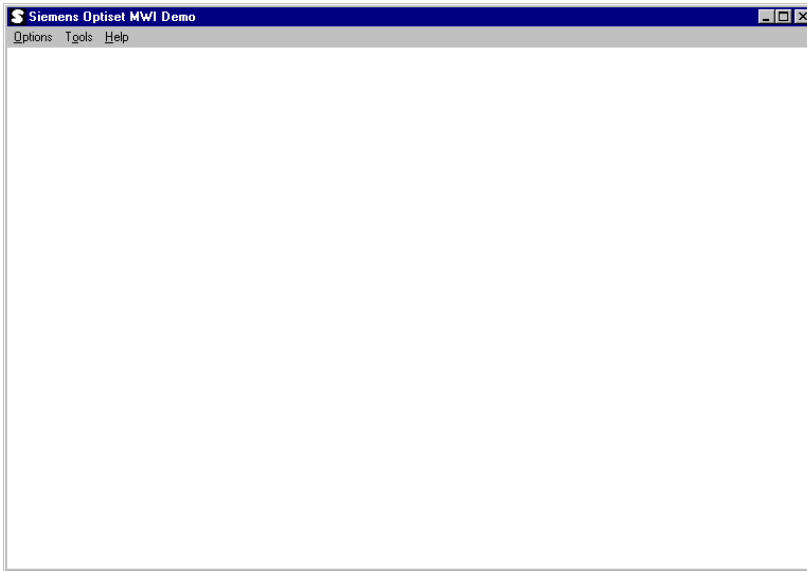

Figure 26. Siemens Optiset MWI Demo Window
3. The *Dialogic Siemens Optiset MWI Demo* window opens, as seen in Figure 26.